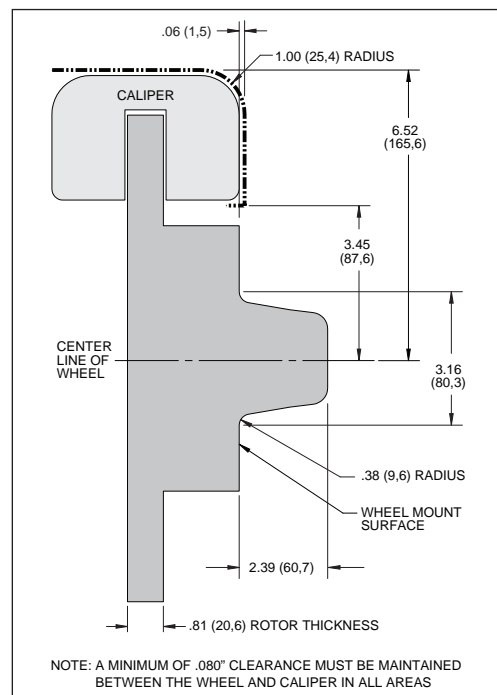

Figure 3. Wheel Clearance Diagram
- Verify wheel clearance using Figure 3.
- **WARNING:** The wheel contact surfaces must seat completely on the face of the hub. If any contact surfaces overhang the outside diameter of the hub face, a 6.60" diameter x .20" thick steel spacer (item 24, Wilwood P/N 300-11961) MUST be used between the wheel and the hub.